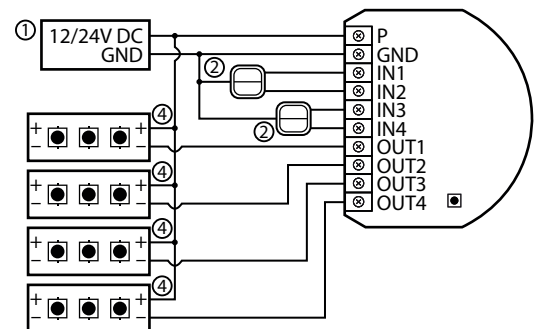

Figure 3: Connection with one-color LED strips
2. Connect in accordance with Figure 3.